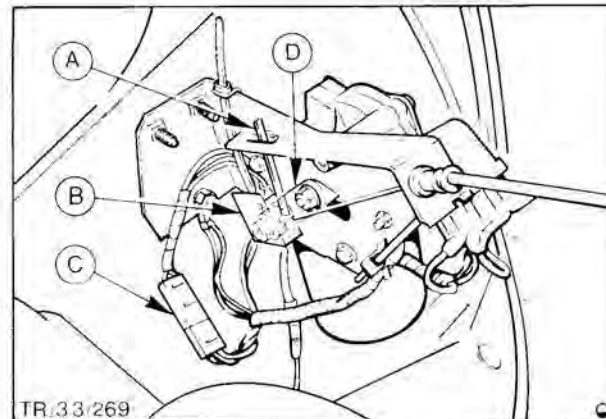

Fig. 40A. Detaching switch from mounting bracket
3. Remove two screws, nuts and spring washers and plastic dirt guard and detach switch from mounting bracket, Fig. 40A.